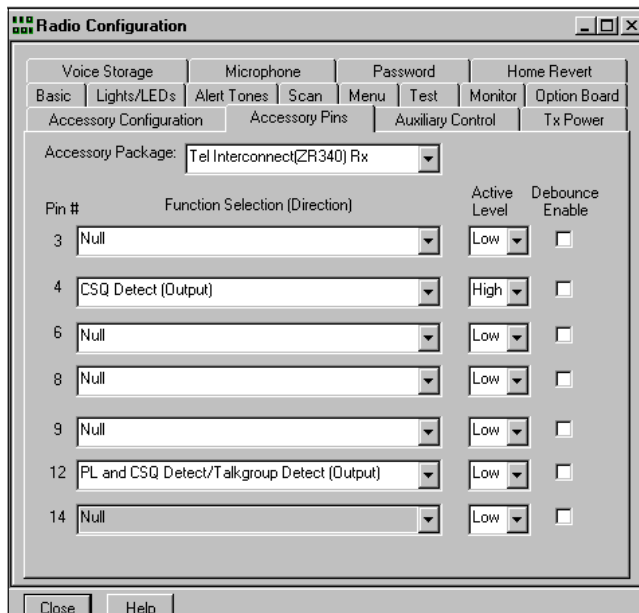

Figure 11-3. Radio Configuration, Accessory Pins, Receive Radio
9. Click the "Accessory Package" dropdown arrow button. Select "Tel Interconnect (ZR340) Rx". Verify that pin 4 is "CSQ Detect (Output)", Active Level "High" and pin 12 is "PL and CSQ Detect/Talkgroup Detect (Output)", Active Level "Low". Your screen should appear similar to Figure 11-3.